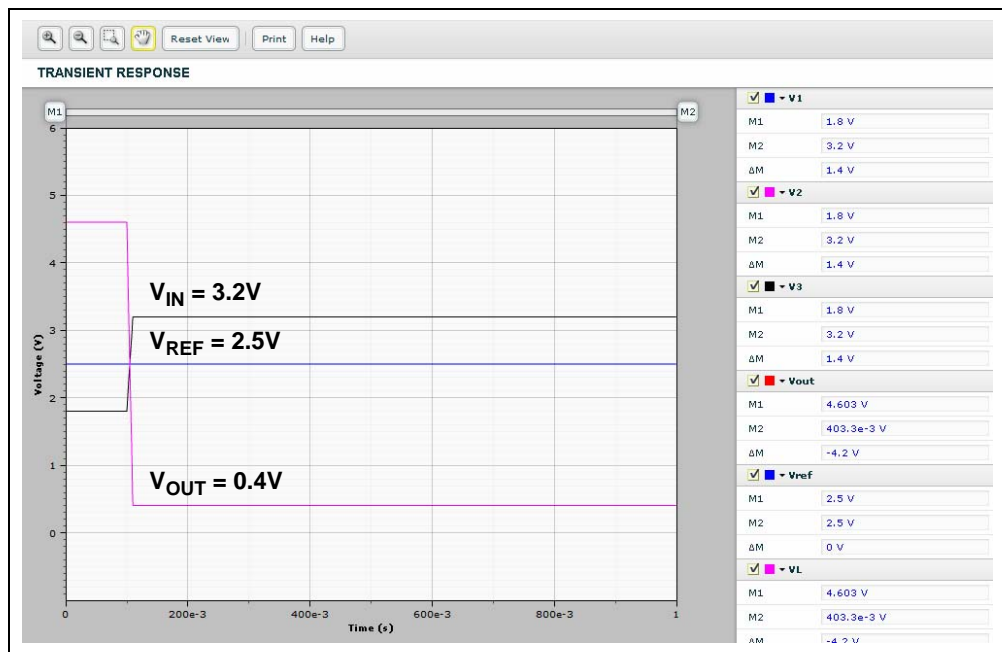

FIGURE 2-16: Simulated Step Response.
- The output step response is shown in Figure 2-16. It is a signal with a step amplitude of 4.2V and a center voltage of 2.5V. (i.e. V_{OUT} starts 2.1V above center and ends 2.1V below center)